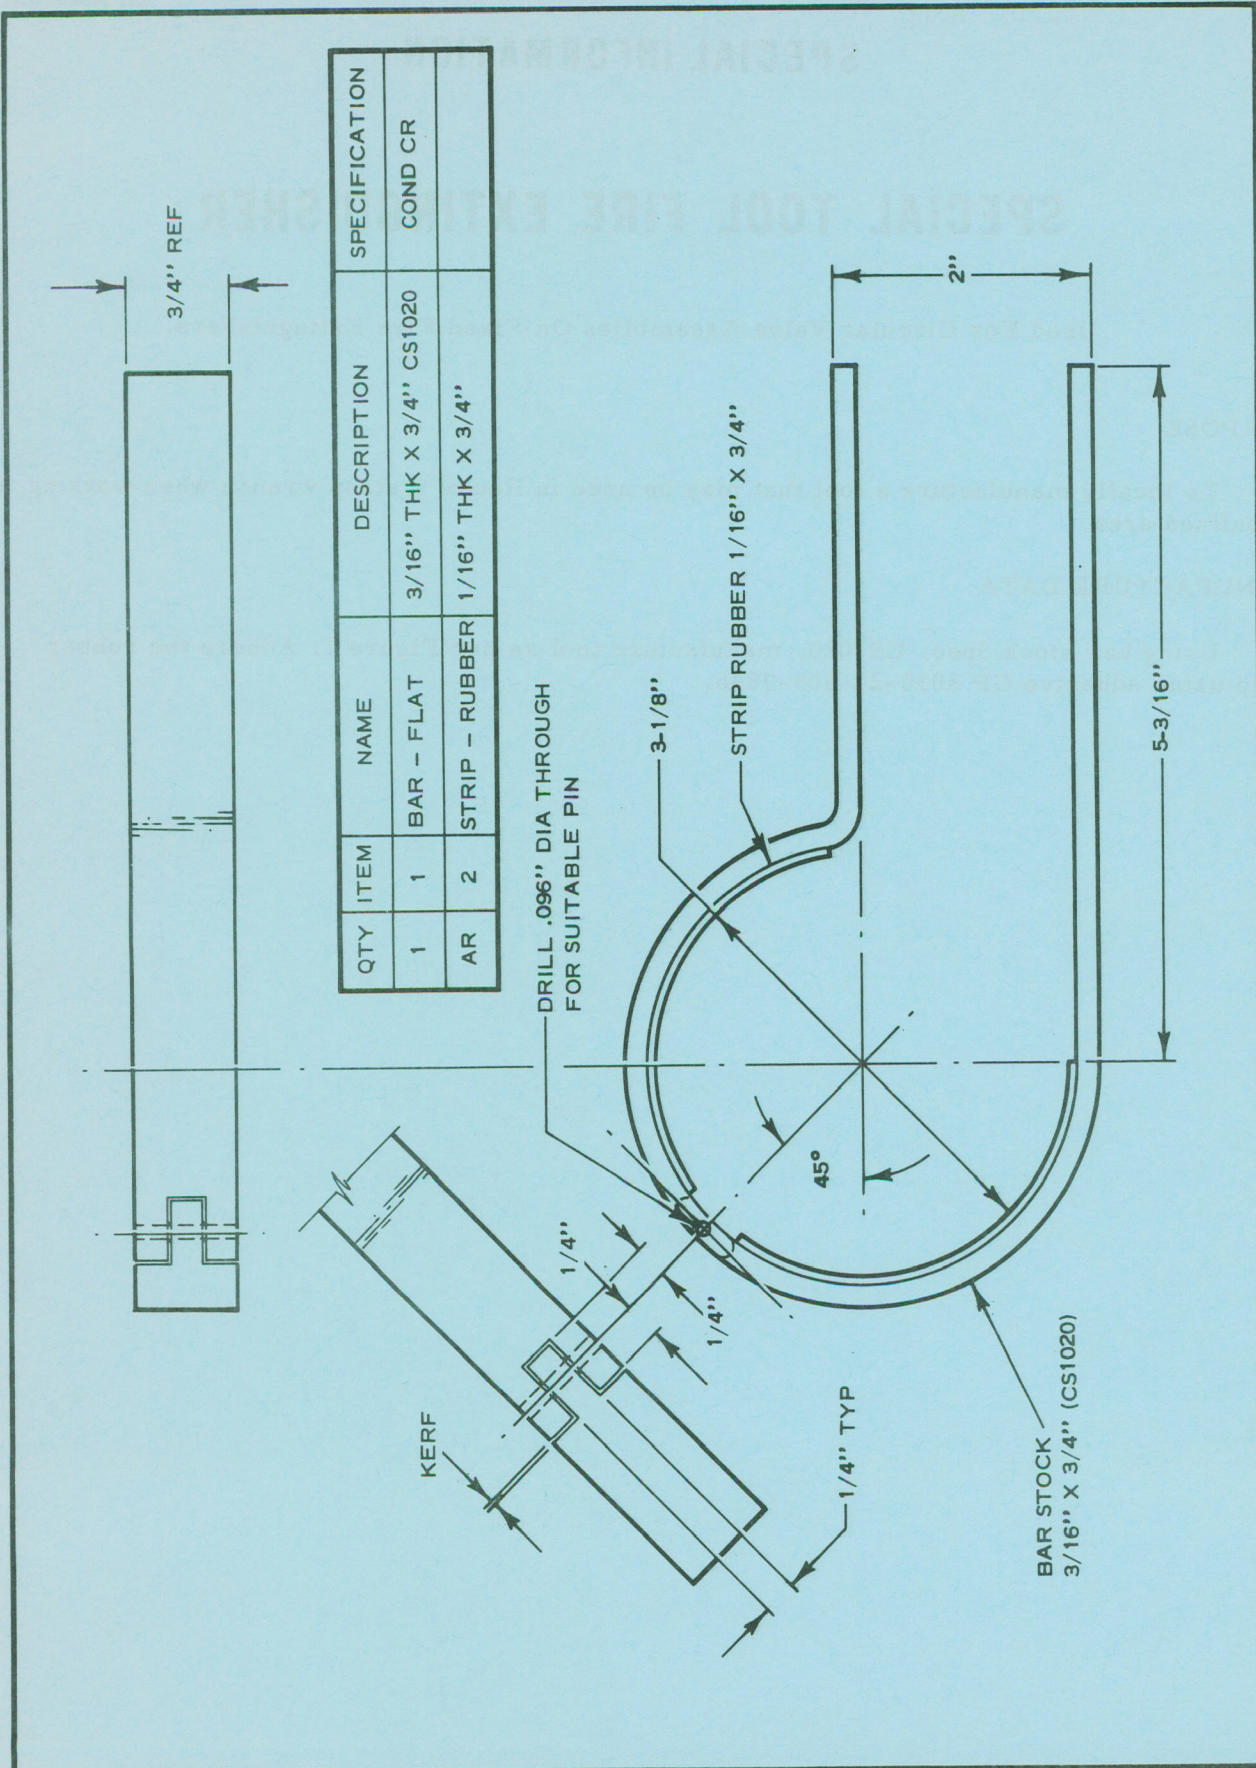

Figure 1
- 2 Using bar stock Spec. CS1020, manufacture tool as per Figure 1. Adhere the rubber strip using adhesive GP 8030-21-805-9846.